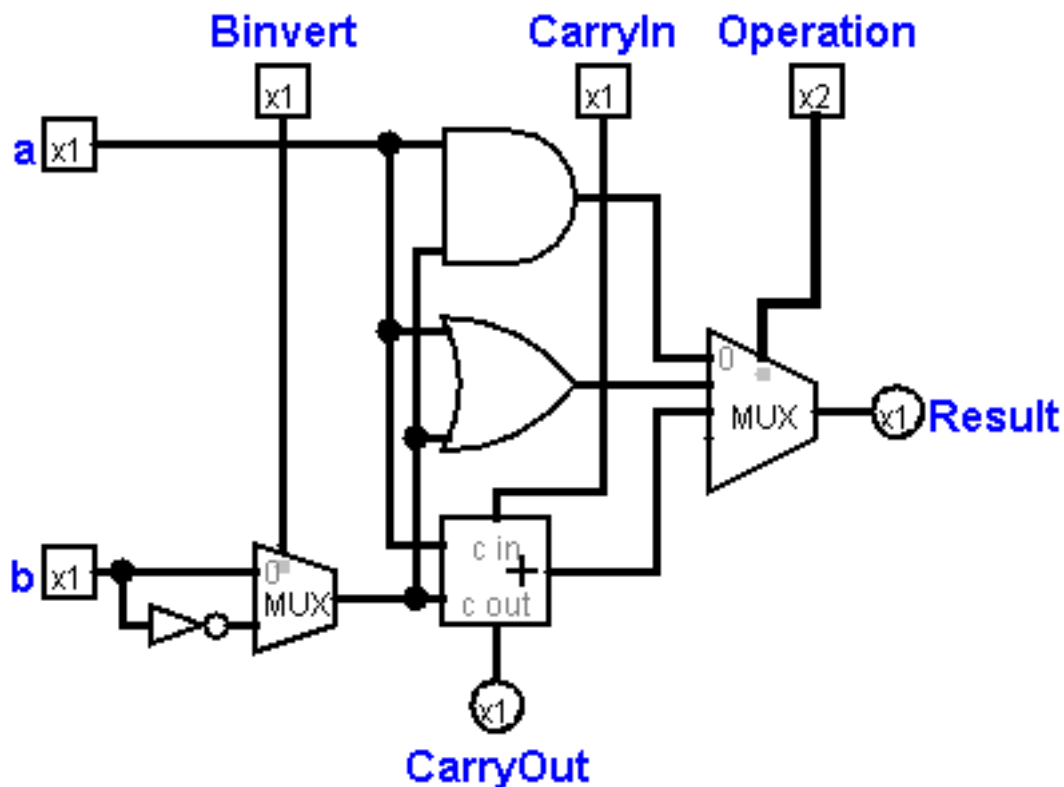

Figure 2: 1-bit ALU with Subtraction
- as in Figure 2, a `Binvert` signal can select the flipped bits of input `B`